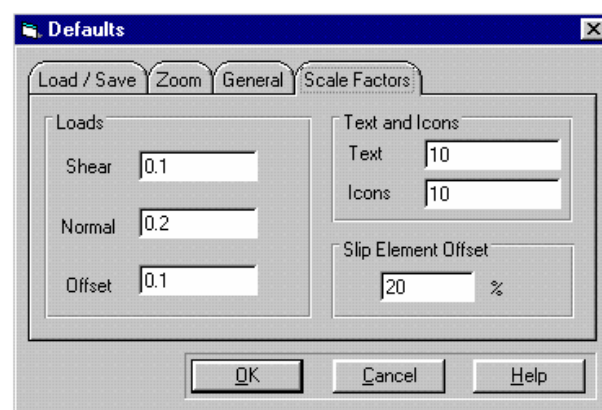

Figure 4-25: Scale Factors for Strip Footing Loads
Step 4 The Defaults dialogue box should now look similar to Figure 4-25. Click on **OK** to exit, once you have finished.